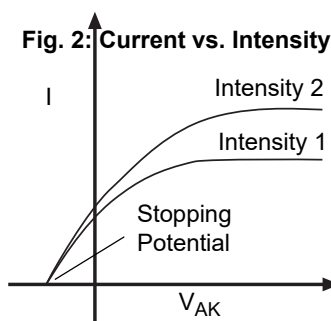

Fig. 2: Current vs. Intensity
- When the voltage between the cathode and anode is greater than the stopping voltage, the photocurrent will increase quickly and eventually reach saturation. The saturated current is proportional to the intensity of the incident light. See Figure 2.